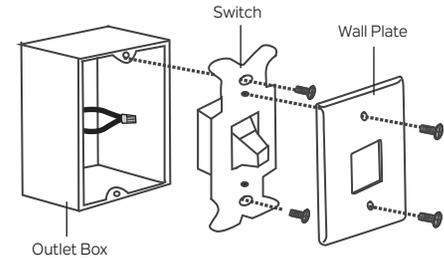

Fig. 17
Step 1. Remove the existing wall plate and the old switch from the wall outlet box. Wire nut the BLACK leads (hot) together and push back inside the outlet box. **(Fig. 17)**